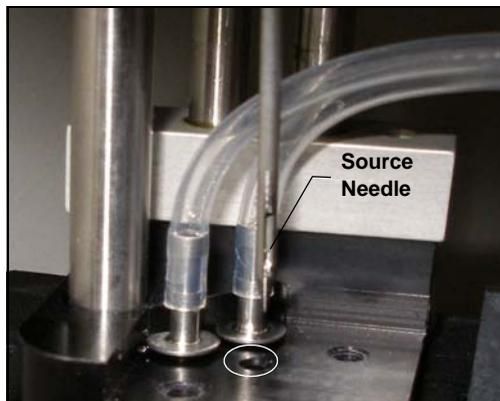

Figure 5-28. Installing the New Source Needle
12. Insert the new source needle assembly (P/N 068955) into the middle opening in the needle block (see Figure 5-28) just until the washer meets the top surface.